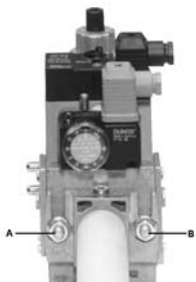

Fig. 7
3. tighten screws A, B, C and D (Fig. 7 - Fig. 8), according to the mounting positions (Fig. 10);
Caution: the SKP2 diaphragm D must be vertical (see Fig. 7).